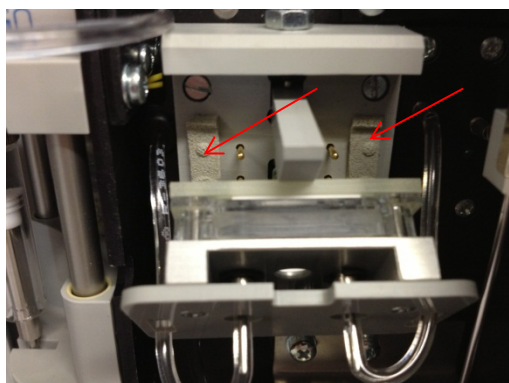

Figure 33: Change of the gaskets
- Remove the gaskets (see figure 33)